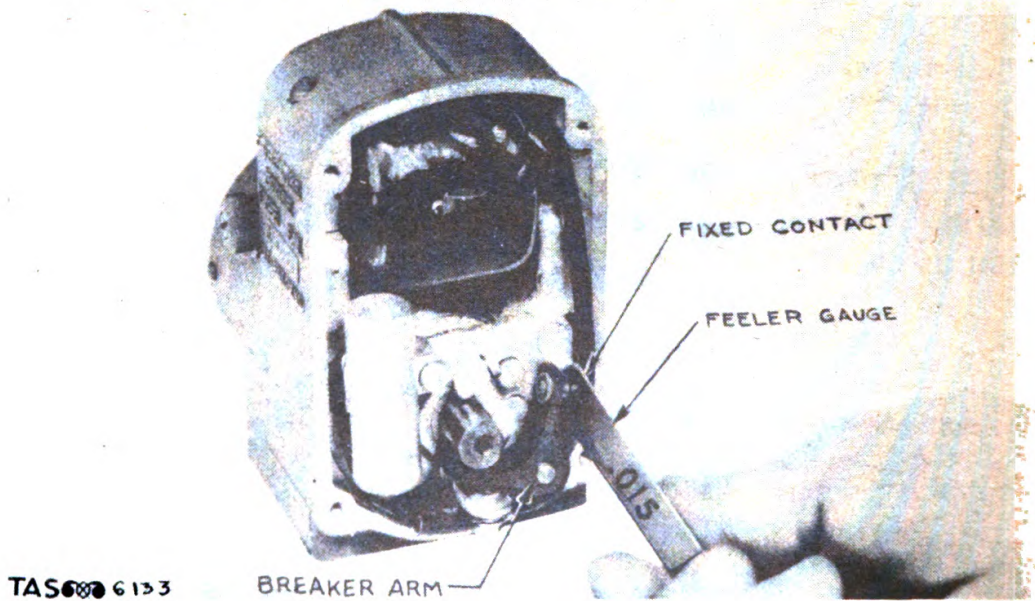

Fig. 133. Adjusting Magneto Point.
(2) The breaker point opening on the magneto should be adjusted to .015-inch by means of the screw head eccentric acting on the fixed contact. (See fig. 133.) Clearance can be tested by means of a .015-inch feeler gage.
(3) If the impulse coupling becomes clogged with dirt the necessity for flushing it is evidenced by the trip arms failing to engage or disengage, or by sluggishness in the action of the impulse when it trips. The impulse should be flushed out thoroughly with kerosene, care being taken, however, not to allow any of the kerosene to work its way into the housing.
(4) It is recommended that if breaker points need replacing, both the fixed contact and the moving points be replaced at once.
n. Fixed needle valve. (1) An excessive rise of the dial thermometer, that is, a rise to above 925 degrees Fahrenheit, can sometimes be corrected by opening the fixed needle valve beyond its normal point. To do this, remove the top and turn the stem with a key which will be found in the tool box on the generator frame. Opening this valve permits more special oil to enter the coil assembly, thus cutting down the temperature.